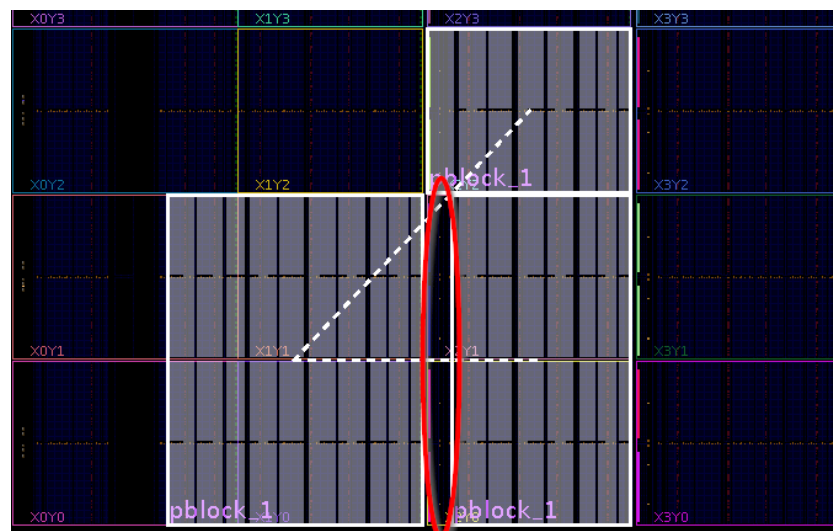

Figure 7-9: Unsupported Gap in the IOB Column
- Gaps in the IOB/XIPHY ranges, such as the gap in the IOB column shown in Figure 7-9 below.